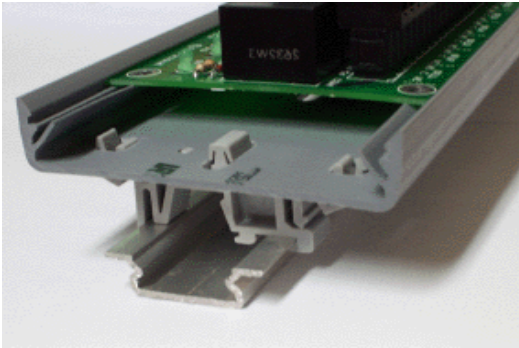

Figure 3: DIN Rail Mounting Kit Installation
- Install the DIN rail clips into the openings on the bottom side of the SnapTrack™. Refer to Figure 3.